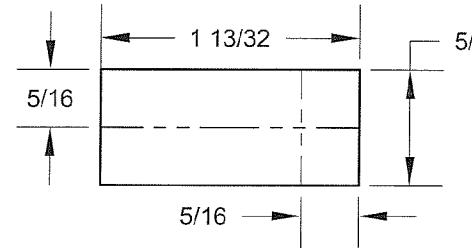

FIGURE 3: CUTTING AND MARKING THE W-1029E SPACER
Step 4: Cut a piece of .063 2024-T3 ALCLAD and mark the alignment lines per the dimensions in Figure 3.